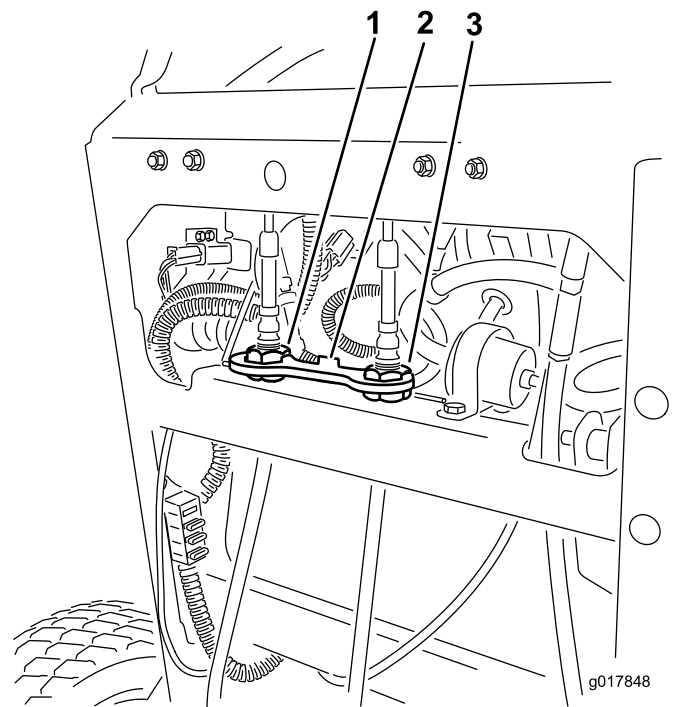

Figure 55
4. Rotate the right cable adjustment to position the right motion control in the center of the control panel neutral-lock slot (Figure 55).